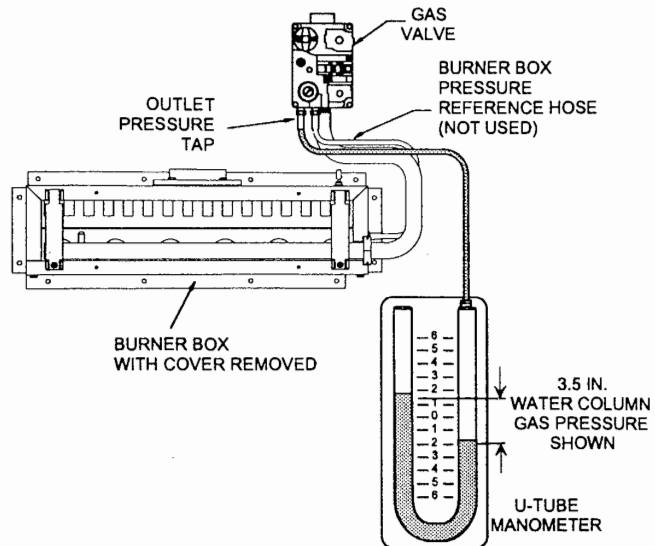

FIGURE 25 - READING GAS PRESSURE WITH BURNER BOX COVER REMOVED
- b. Reading the gas pressure with the burner box cover removed - Remove the screws securing the burner box front cover plate. Remove the cover. It is gasketed and may stick in place. Connect the positive side of the manometer to the adapter previously installed in the gas valve as shown in Figure 25. There will be no second connection to the manometer as it will reference atmospheric pressure.